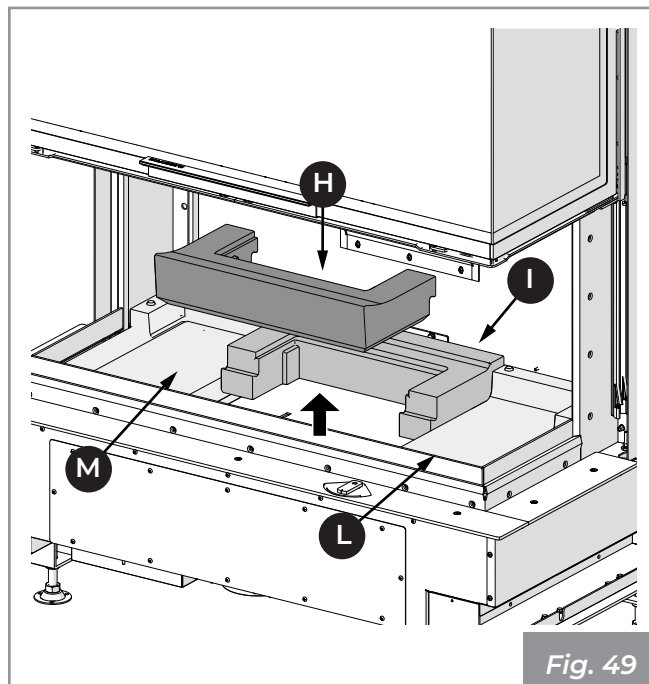

Fig. 49
- 6) Lift and extract the refractory bases in order (H, I, L, M) from the base and vacuum any ash deposited in the compartments below (Fig. 49).